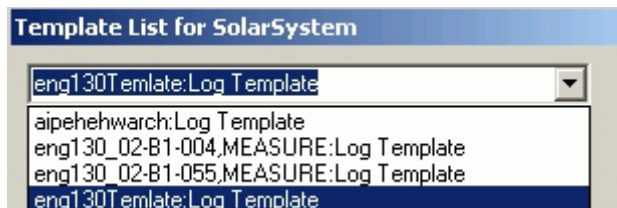

Figure 282. Changing the Log Template Specification
3. Select the template from the list provided Figure 282.